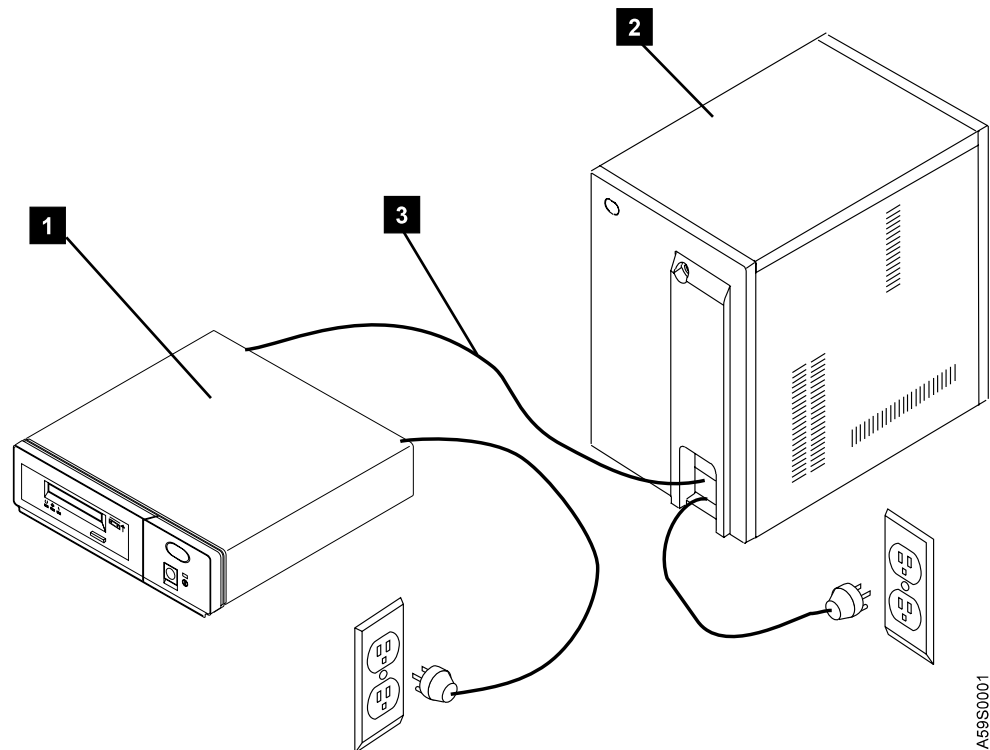

Figure 17. Safety Inspection
Figure 17 shows the components to review during the service inspection.
3. Turn off the power to the 7206 Tape Drive (**1** in Figure 17).